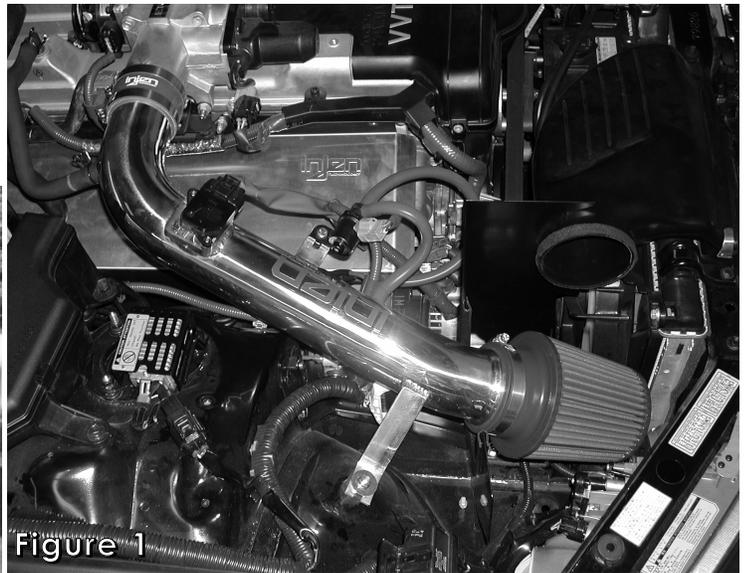

Figure 1
- 12- Take Injen filter designed for this application and press it over the end of the intake be sure to tighten the clamp. (See fig. 1) **Note: This filter was designed for this application any other filter used will change the air/fuel ratio causing the engine to shut down and or the check "engine light" to appear.**
- 13- align the intake for best possible fit. Once proper clearance has been made through out the length of the intake continue to tighten all nuts, bolts and clamps. Reconnect the negative battery terminal and check all connections for any possible air leaks or loose fittings. (See fig. 1)